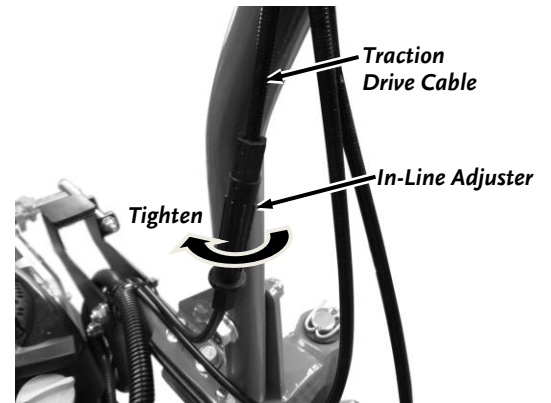

Figure 49
1. Locate the In-Line Adjuster on the Traction Drive Cable along the right Handlebar (**Figure 49**).